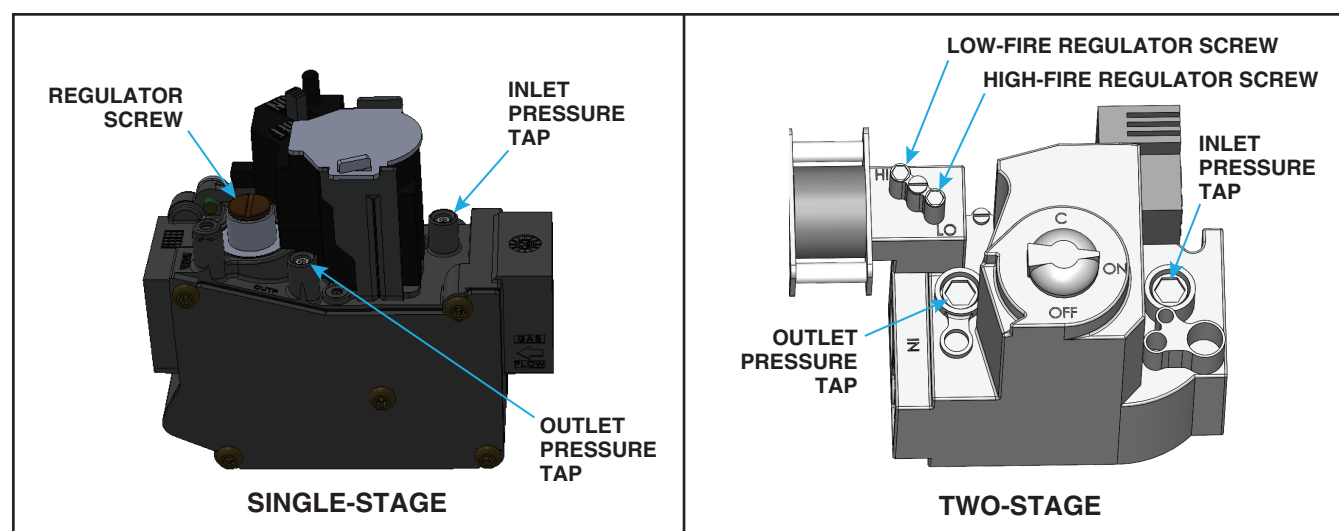

Figure 39. Combination Gas Valve
3. Connect manometer to outlet pressure tap on combination gas valve (see Figure 39).
6. Observe manometer gauge to measure outlet pressure of gas valve. If manometer reading does not indicate that valve outlet pressure is in accordance with Table 17, remove cap from regulator screw(s) (see Figure 39) and adjust pressure by turning regulator screw IN (clockwise) to increase pressure or OUT (counterclockwise) to decrease pressure.